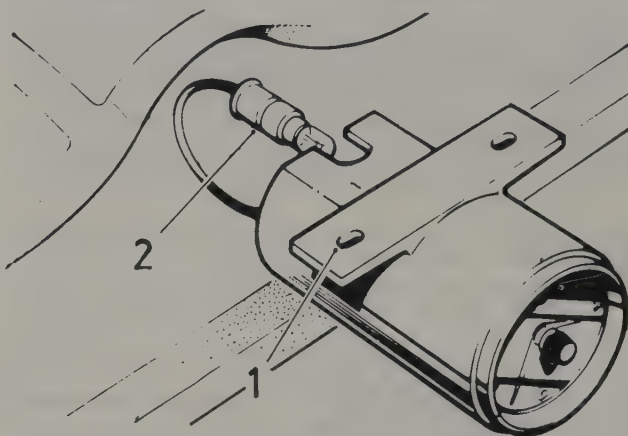

Fig. 10.46. The early type clock showing the retaining bracket (1) and the bulb holder (2) withdrawn from the rear
- 3 On later models remove the instrument panel and then the two screws at each end of the panel. With the panel removed the clock retaining screws can be unscrewed and the clock withdrawn together with the insulation strip (Fig. 10.46).